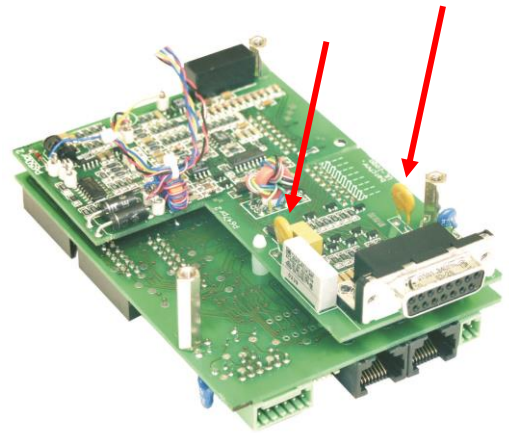

fig 6 - 1
- Check fuse F27_2 in series with Ø (pin 8 of CON E), see fig. 6 - 1. To check the fuse measure the voltage between Ø and the minus output, a high voltage means too much current flowing through the fuse. F27_2 = 650 mA, self resetting.